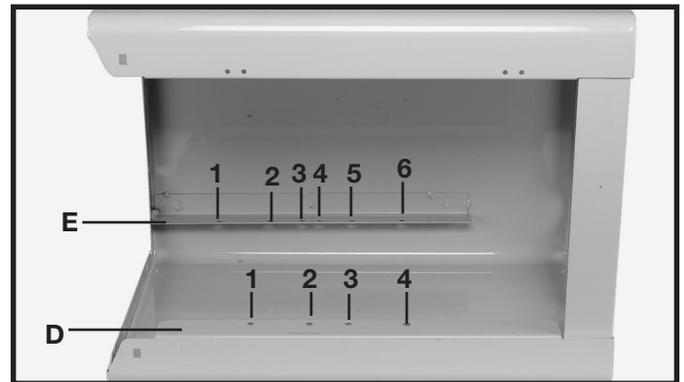
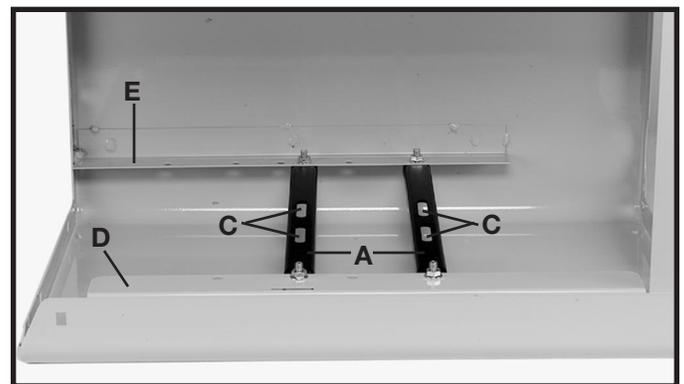

Fig. 6
Fig. 7
1. Place the cabinet on its side as shown in Fig. 6.
2. Align the two holes in the motor bracket (A) Fig. 7, with the two holes in the cabinet. **NOTE: ATTACH MOTOR BRACKETS TO HOLES #2 AND 4 IN FRONT CABINET FLANGE (D) FIG. 6, AND HOLES #4 AND 6 IN REAR CABINET FLANGE (E).**
NOTE: MAKE SURE THE SLOTS (C) FIG. 7, IN THE MOTOR BRACKET (A), ARE POSITIONED CLOSER TO THE OPENING OF THE CABINET (D) THAN THE BACK PANEL (E) OF THE CABINET.
3. Insert 5/16-18x3/4" carriage head bolts through the holes in the motor brackets (A) Fig. 7, and the holes in the cabinet.
4. Adjust the belt tension by raising or lowering the motor on the motor mounting brackets (A) Fig. 7. Keep the pulleys in alignment when performing this operation. Proper tension is 1/4" deflection at the center of the belt with light finger pressure.